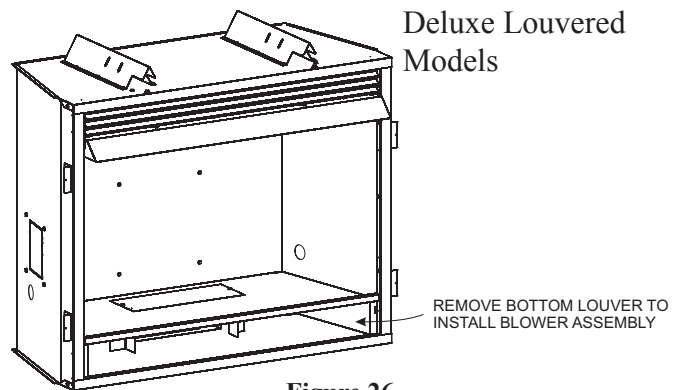

Figure 26
3. Determine which type of firebox you have prior to installation. **See Figures 26 and 27.**